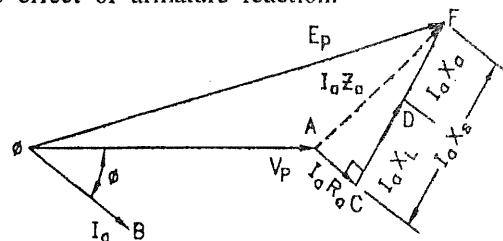

FIG. 4.56 : VECTOR DIAGRAM OF ALTERNATOR AT LAGGING POWER FACTOR
- Vector diagram of alternator at lagging power factor taking terminal voltage as the reference vector is shown in Fig. 4.56.